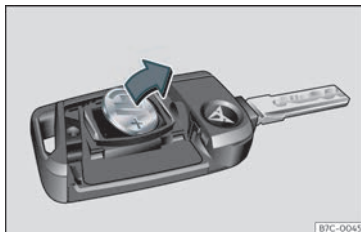

Fig. 68 Vehicle key: removing the battery.
- Extract the battery from the compartment using a suitable thin object >>> Fig. 68.
- Place the new battery in the compartment as shown >>> Fig. 68, pressing in the opposite direction to that shown by the arrow >>> ⓘ.